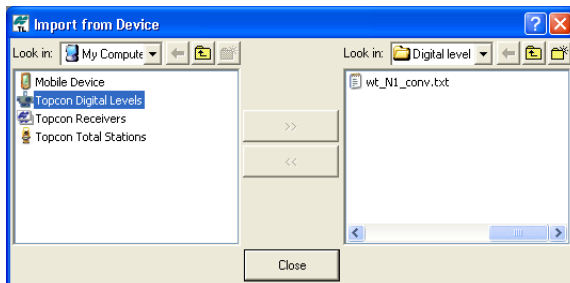

Figure 2-33. Import From Device Window
2. Double-click the *Topcon Digital Levels* in the *Import from Device* dialog box (Figure 2-33).